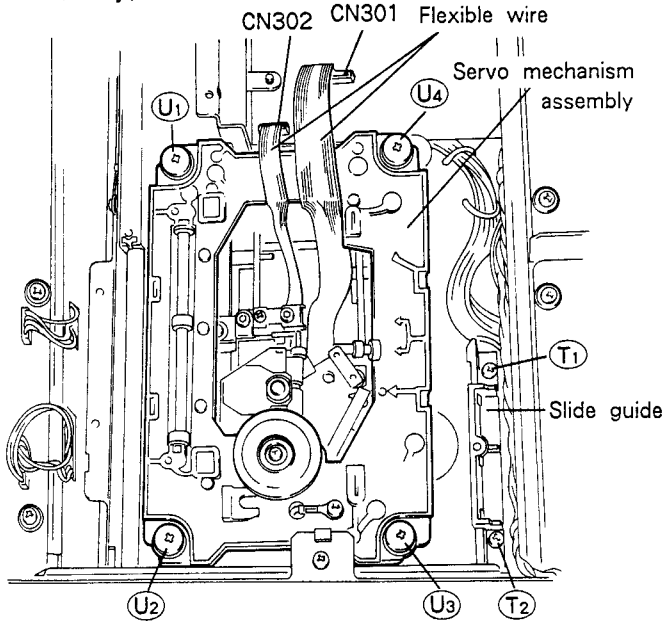

Fig. 2-6.
2. Remove the slide guide. (Screws T1 and T2, refer to Fig. 2-6.)